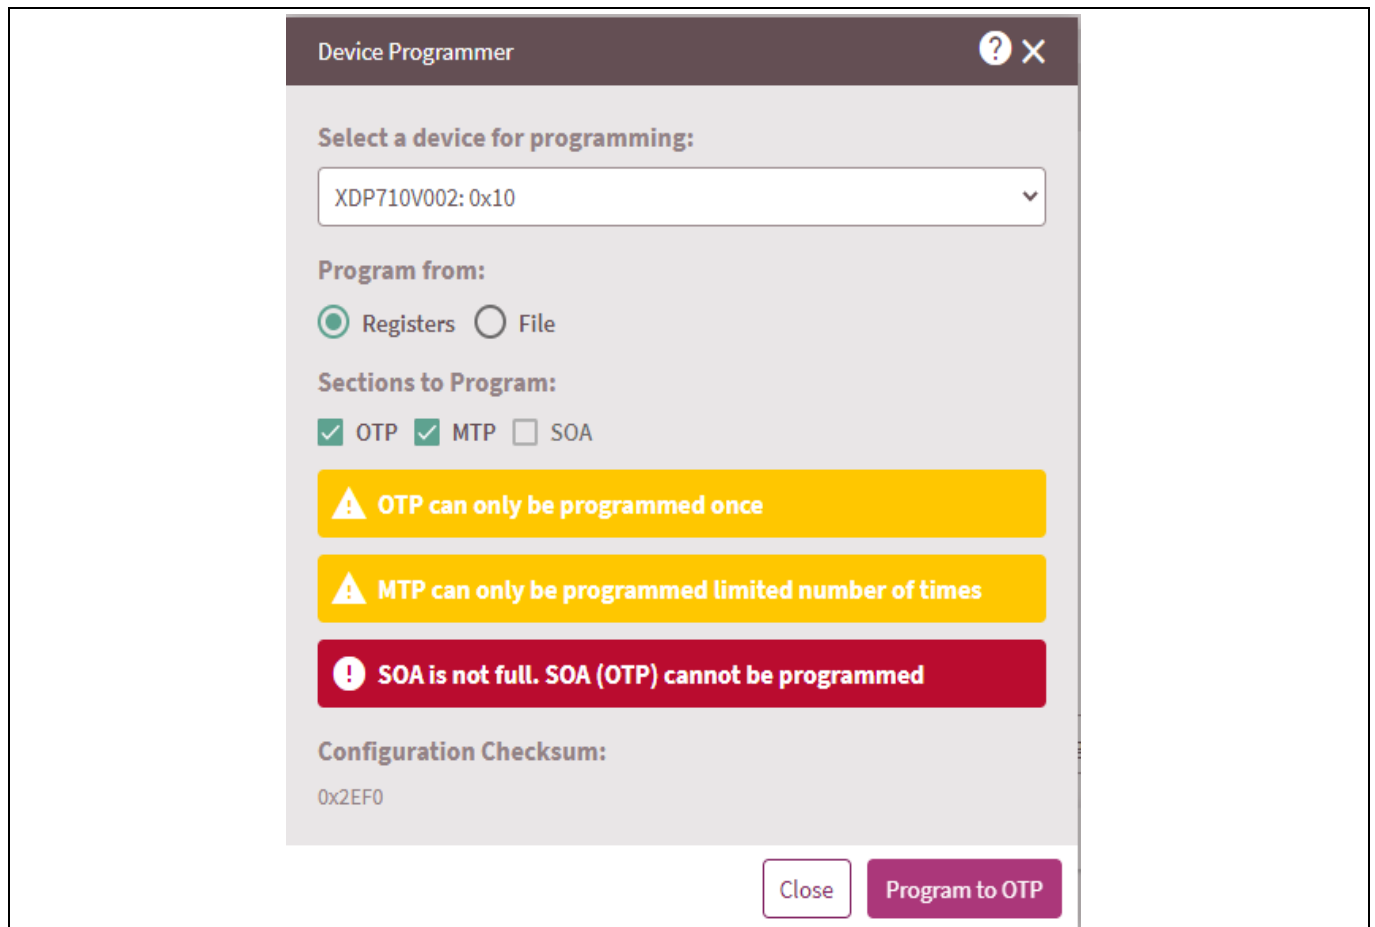

Figure 45 OTP and MTP programming
- Set the program from **Registers**, select the memory section that needs to be programmed and then click **Program to OTP**, as shown in Figure 45.